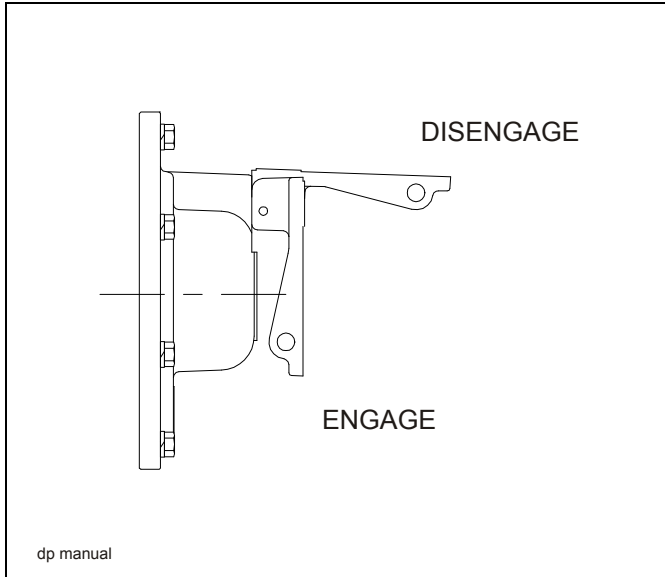

Figure 3-6: Manual Lever Kickout
1. The manual freespool clutch is operated by pulling lever kickout (See Figure 3-6.)